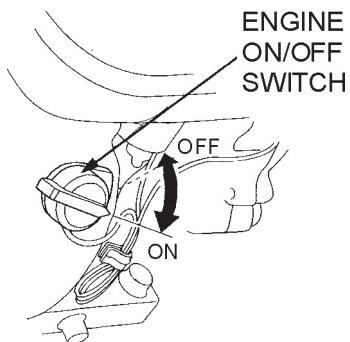

Figure 11. Engine ON/Off Switch
2. Place the **Engine ON/OFF switch** (Figure 11) in the "ON" position.
2. Place the **engine ON/OFF switch** (Figure 11) in the "**OFF**" position.